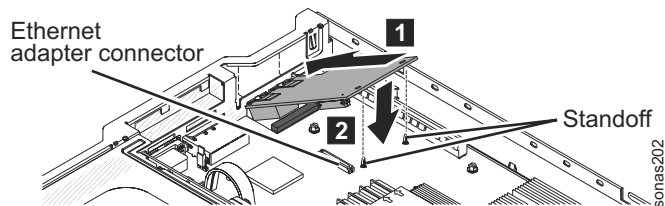

Figure 17. Aligning the Ethernet adapter port connectors with the port openings
10. Align the adapter with the adapter connector on the system board; then, tilt the adapter so that the port connectors on the adapter line up with the port openings on the chassis. See Figure 17.